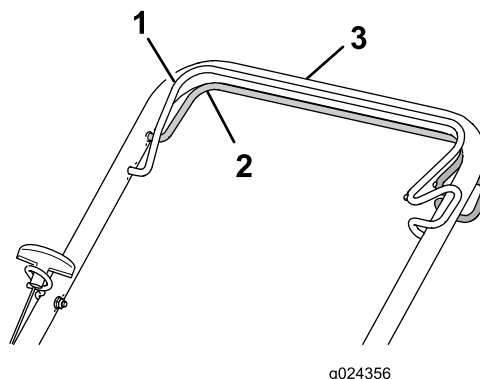

Figure 17
- **To engage the self-propel-drive:** Squeeze the self-propel-drive bar against the handle and hold it (Figure 17).